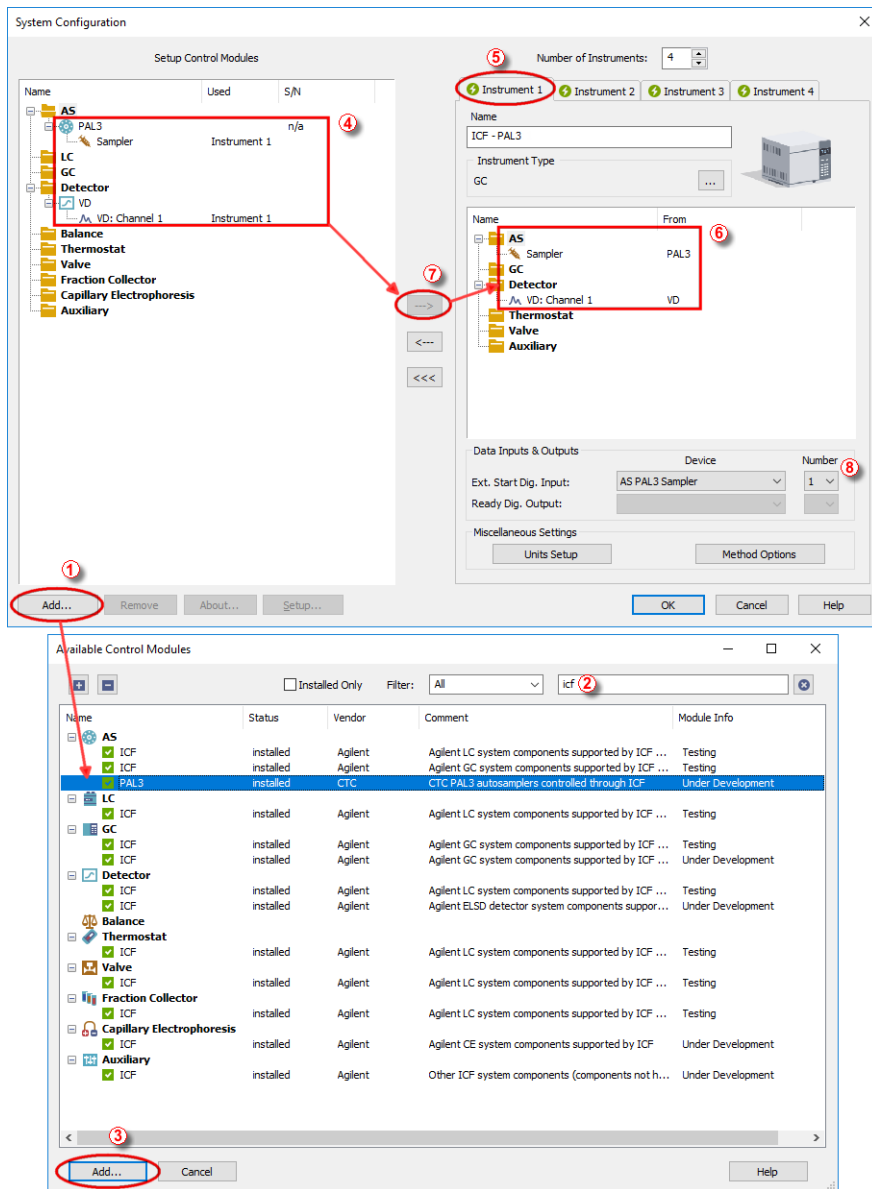

Fig 4: System Configuration
- Press the **Add** button ① (See **Fig 4** on pg 6.) to invoke the **Available Control Modules** dialog.
- You can specify the searching filter ② to simplify the finding of the driver.
- Select the **PAL3** item and press the **Add** ③ button.
Caution: When the *PAL3 Setup* dialog is open for extended time, communication between **Clarity** and the AS may be lost, in such case an error message will be displayed. After accepting the error message it is necessary to set the configuration from very beginning, starting with clicking the *Add* button ① (See **Fig 4** on pg 6.) in the **System Configuration** dialog.
- Drag and drop the **PAL3** icon from the *Setup Control Modules* list ④ on the left side of the **System Configuration** dialog to the desired *Instrument* ⑤ tab on the right side ⑥ (or use the  button ⑦ to do so).
- Set the *Ext. Start Dig. Input* ⑧ to "1" -  ⑧ for ICF Sampler to assure correctly synchronized start of the analysis with the **PAL3** sampler's injection.